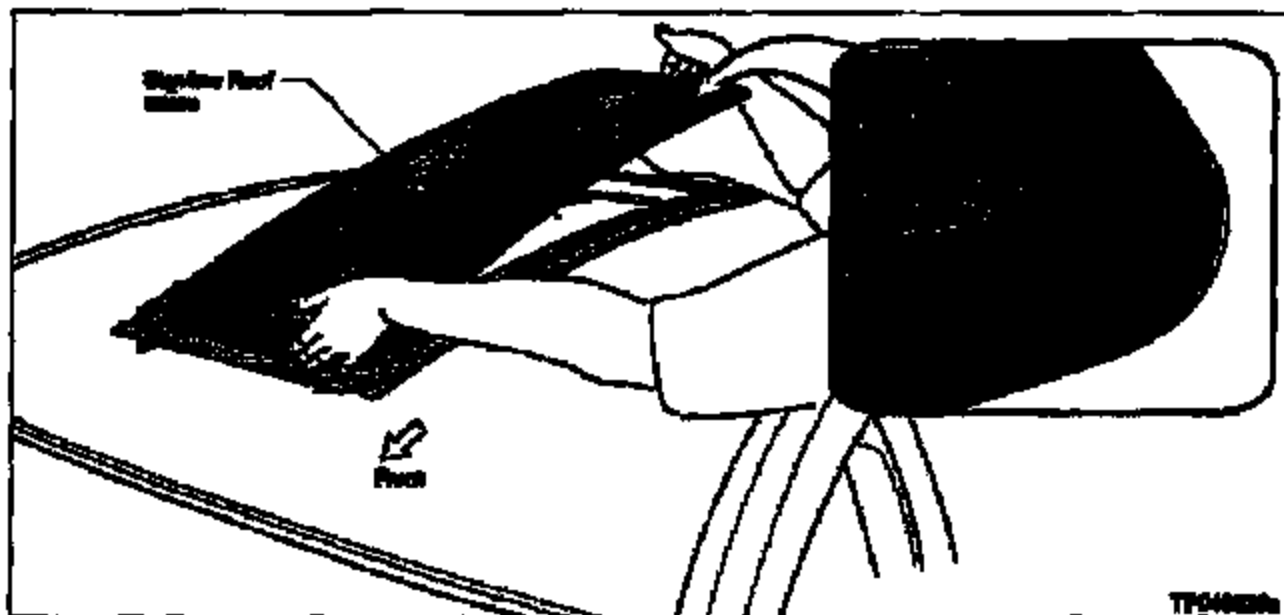

Figure 11
- The "NISSAN" logo on the glass goes towards the driver's side rear of the vehicle (see Figure 11).
- If the logo is not positioned as shown in Figure 11, the glass is installed backwards.